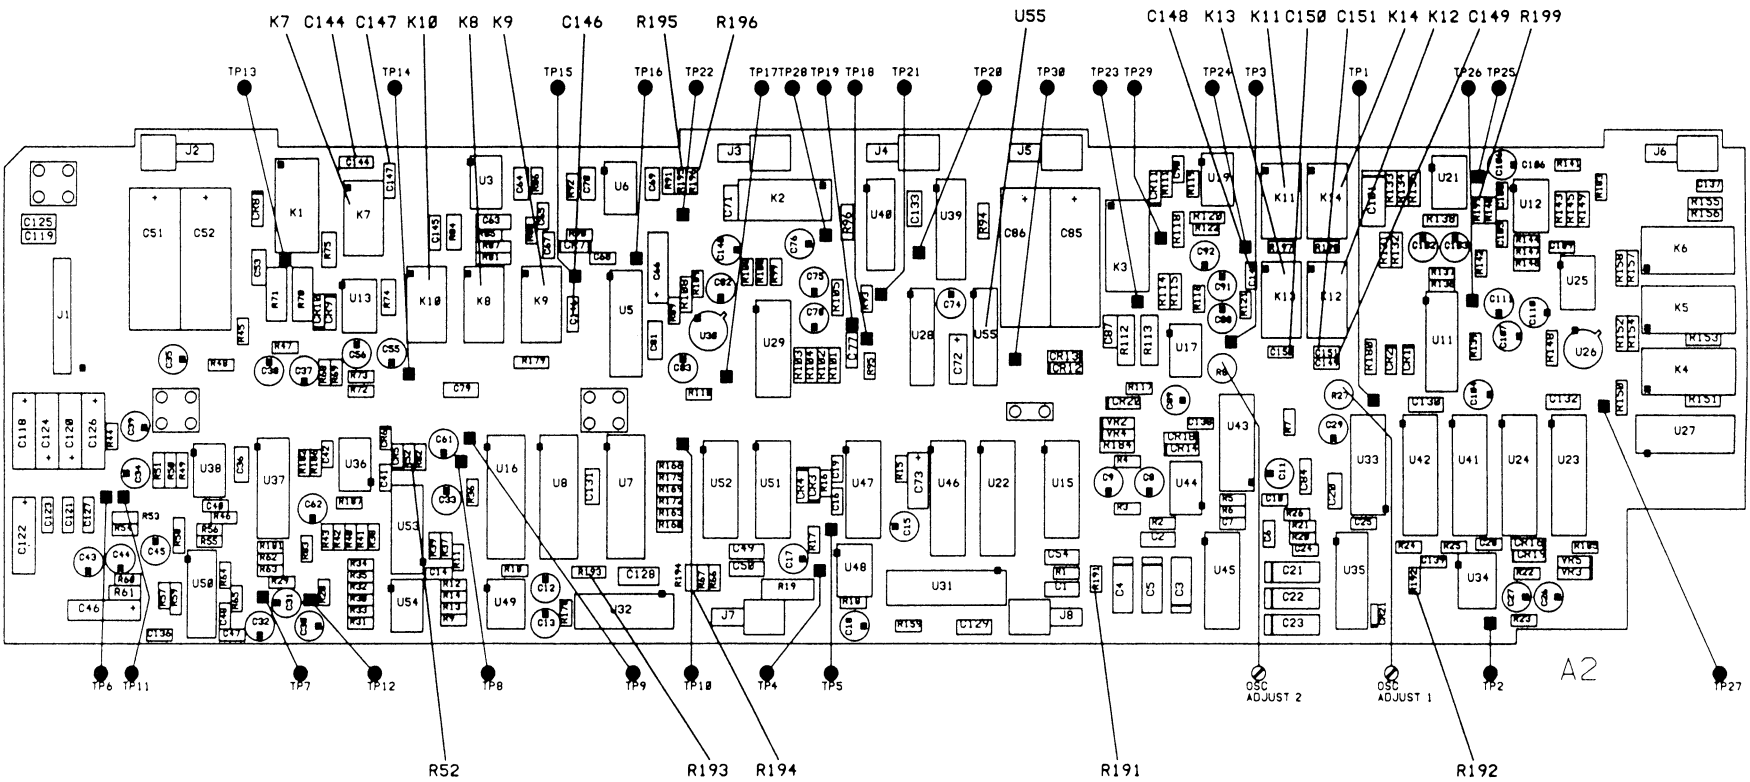

Figure 8J-104 Component Locations (2714A and above)
- SS14 - Replace *Figure 8J-104 Component Locator* with the new *Figure 8J-104 Component Locator* on page 8J-104.4.